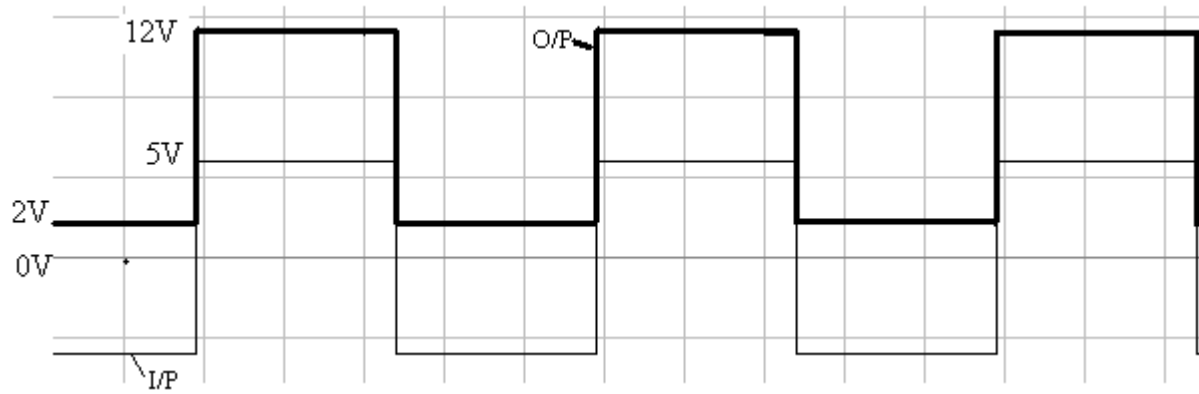

Fig. 7 Input and output waveform for positive clamper circuit with reference voltage = 2V
1. For clamping circuit with reference voltage V_{ref} , the output waveform is observed as shown in Fig. 7. For without reference voltage, Keep $V_{ref} = 0\text{V}$.